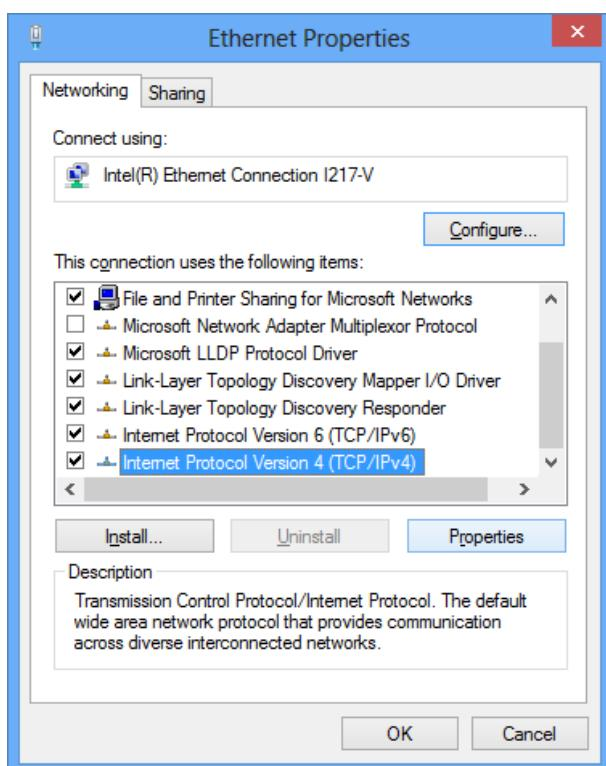

Fig. 8.6: Property window of the "Internet Protocol Version (TCP/IPv4)".
- d. Click on "Internet Protocol Version (TCP/IPv4)" and select "Properties", as in **Fig. 8.6**.